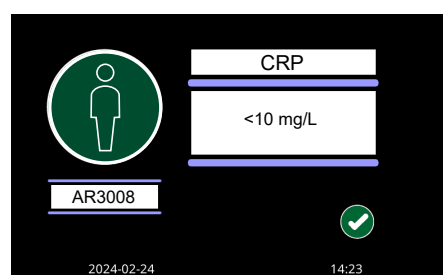

Figure 29. Pop up notification
- After pressing Accept , a pop-up notification will appear. See Figure 29.
- Tap Accept icon when the result is read on the screen in Figure 29.